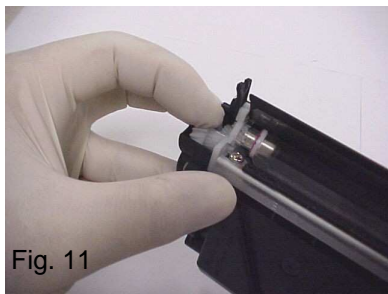

Fig. 11
13. Push out and lift developer roller out of hopper and clean (Fig. 11). Remove bushings from ends of the developer roller and clean (Fig. 12).